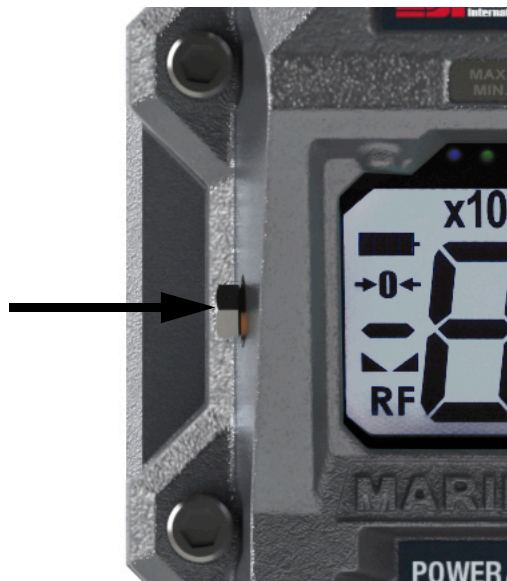

Figure 5-1. Calibration Switch Seal Screw
2. Using a small screwdriver, press the Cal switch located behind the hex seal screw (Figure 5-1).  $\bar{L}R\bar{L}$  displays.